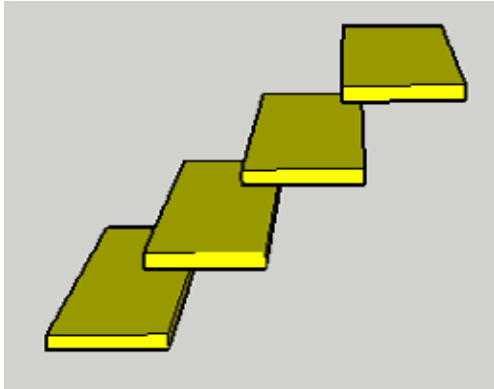

Figure 7-94
2. Make a few copies of the tread, positioned so that the front of each tread extends forward, over the back of the tread below (Figure 7-94). This is easiest to do in Side view.